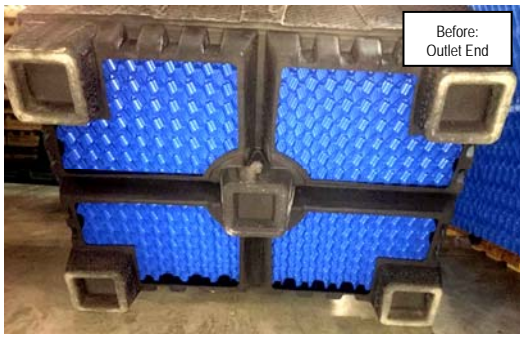

Figure 4.1
17. **For FAST® 0.625 & 0.75** Remove ~6" of the outlet end rib on the underside of the liner as shown in *Figures 4.1 & 4.2* on page 4.